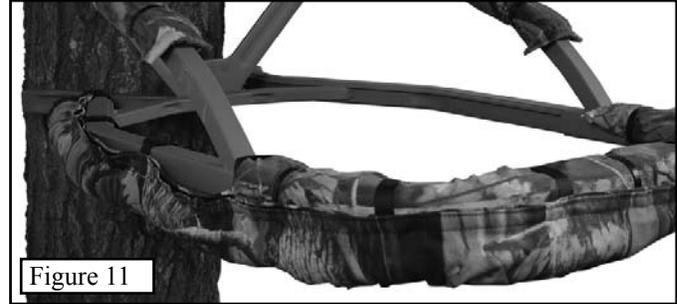

Figure 11
Step 4. Work from the center back looping the straps over and securing them as shown in **Figure 11**. Repeat for both sides.